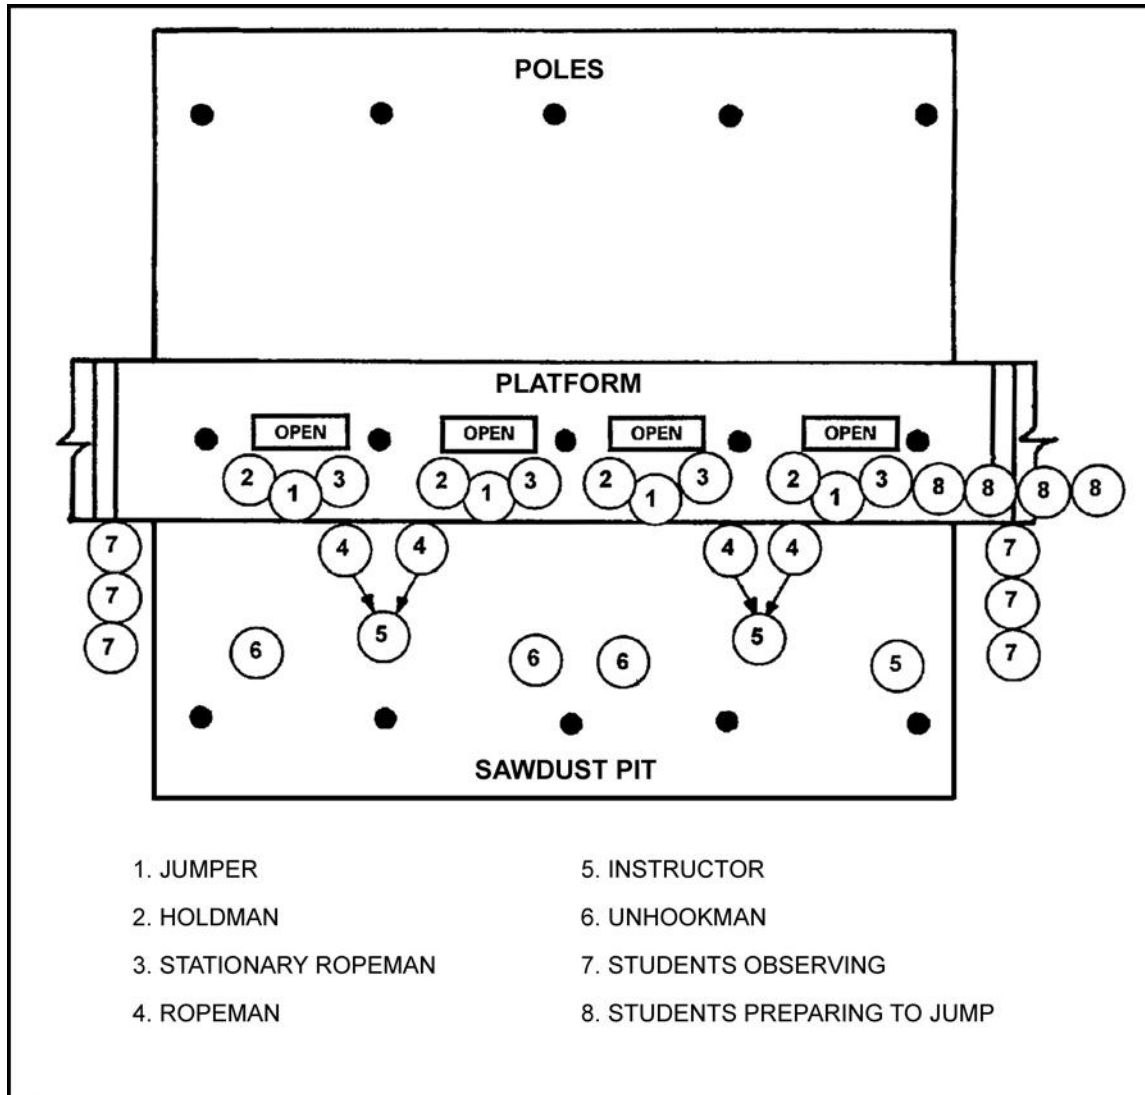

Figure 4-4. Personnel positioning for the SLT.
a. **Personnel and Equipment Requirements.** Personnel required to train on the SLT apparatus include one instructor for every two dismount points in use and four detail personnel for each unit (Figure 4-4, page 4-6). Enough harnesses to accommodate the students are also required.